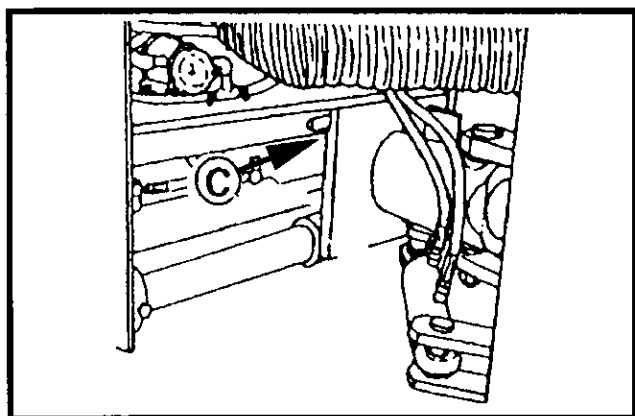
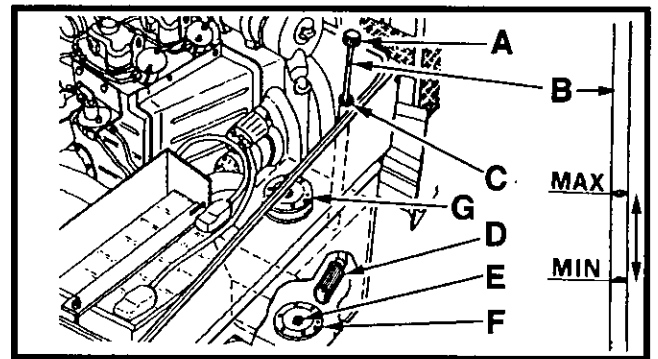

Figure 5-18 Drum Offset Guide Grease Point
Figure 5-23 Hydraulic Oil Tank, Dipstick
1. Clean the grease fitting ('C', Figure 5-18).
1. Check hydraulic oil level by viewing dipstick ('B', Figure 5-23) located on the hydraulic tank. The fill cap ('A', Figure 5-23) includes a dipstick to check the oil level.
3. If necessary, add fresh, clean (filtered through 10 micron filter) anti-wear hydraulic oil through the filler ('C', Figure 5-23). Bring to a full level. It is important to maintain the tank at a full level at all times. Refer to Section 8 - Fuel and Lubricant Instructions for details on hydraulic oil specifications.
In the event that there is indication of contamination of the hydraulic system due to part failure or ingress of dirt into the hydraulic tank, then remove drain plug ('E', Figure 5-23) and the access cover ('F', Figure 5-18) and thoroughly clean out the tank interior. On later models fitted with the suction strainer/filter ('F', Figure 5-23), clean or replace this filter. Follow refill as above.
III. Clean Hydraulic Oil Return Strainer (G, Figure 5-23)